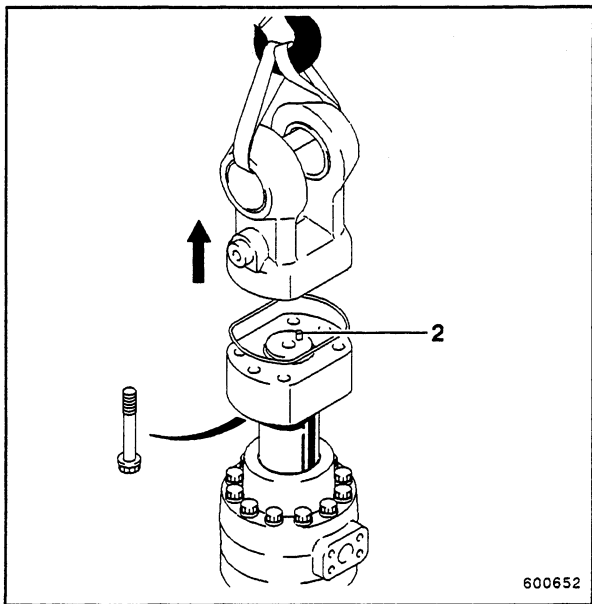

Fig. 8
- Lift the eye off the piston rod (Fig. 8).